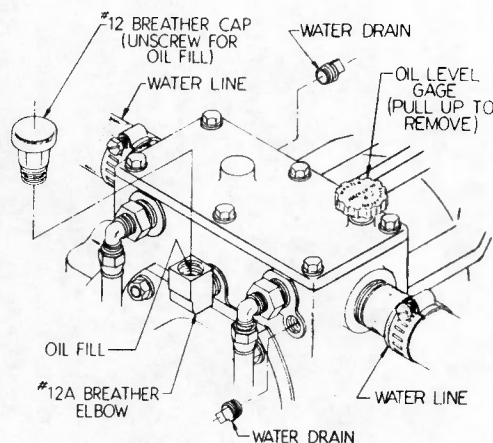

FIG. 4
WATER CONNECTIONS: (SEE FIG. 4) The models RV-20 thru RV-50 V-Drives are equipped with water-jacket cooling. On either side of the #01C Main Housing (near the top) are standard pipe-threaded holes. Either hole can be hooked up to intake side. The V-Drive should be cooled with raw water directly after it goes through the sea strainer; the V-Drive cannot be cooled after the engine jacket or engine heat exchanger. Normal operating temperature should be less than 180 degrees, although safe intermittent operating temperature may be as high as 210 degrees. Any silt, sand, or scale in the water-jacket of the #01C Main Housing should be cleaned out at the start of each season. Simply remove the #19A Cap Screws and lift off the #6D-C Top Cover to gain access to the water-jacket.
- Pull out #21 Oil Level Gage (SEE FIG. 4).